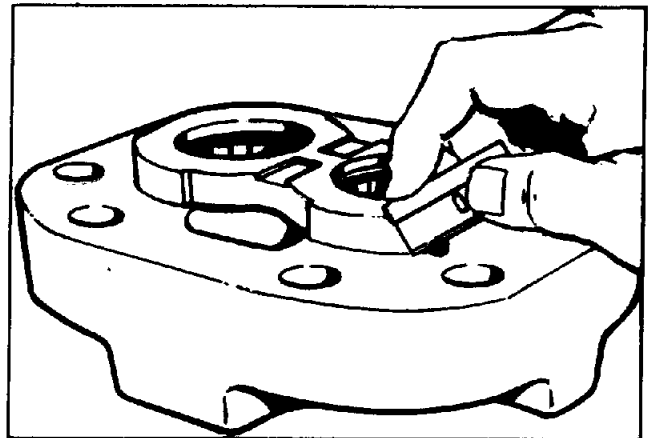

Figure 34A. Trimming Pocket Seals.
2. Install double lip seal (Figure 34A).